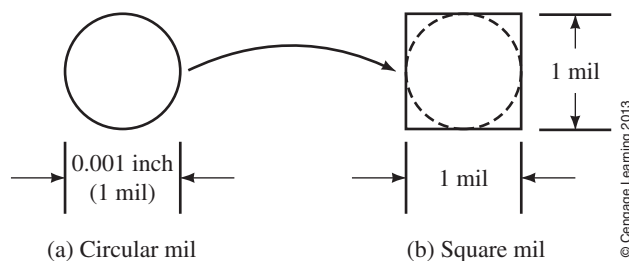

FIGURE 3–6
The American Wire Gauge system for specifying wire diameters was developed using a unit called the circular mil (CM), which is defined as the area contained within a circle having a diameter of 1 mil (1 mil = 0.001 inch). A square mil is defined as the area contained in a square having side dimensions of 1 mil. From Figure 3–6, it is apparent that the area of a circular mil is smaller than the area of a square mil.
Suppose that a wire has the circular cross section shown in Figure 3–6(a). By applying Equation 3–2, the area, in square mils, of the circular cross section is determined as follows: